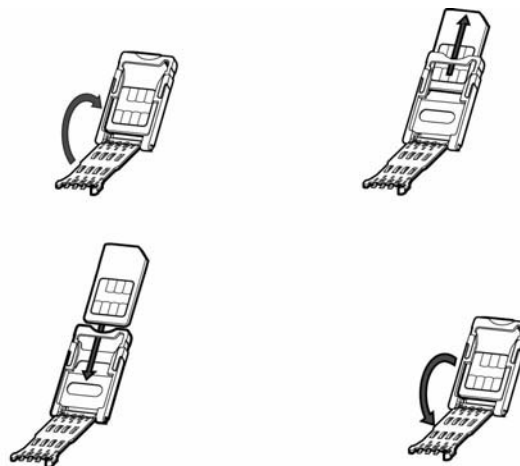

Figure 12 **Insert MSAM Card into Cardholder**
- b Open the cardholder by pivoting the cover on its hinge away from the connector base (Figure 12).
The cardholder has a set of contacts and a notch on one corner to ensure the MSAM card is positioned correctly when the cover is closed. The MSAM card has a notch on one corner to ensure it is correctly positioned in the cardholder. Before inserting the MSAM card, position it as shown in Figure 12.
- 6 Close the cover (Figure 12).